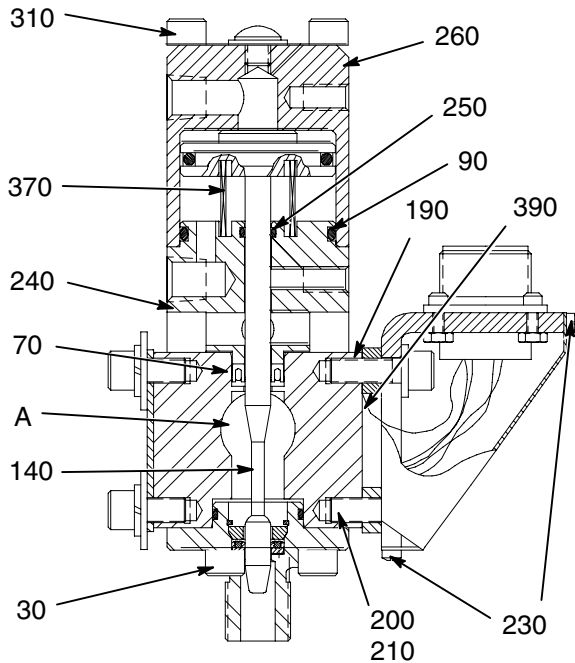
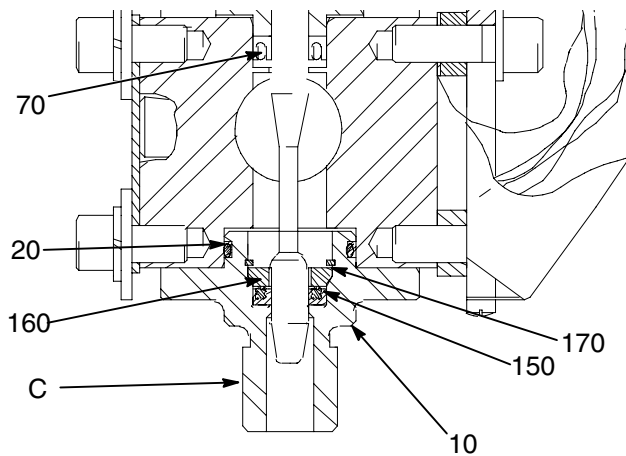

Fig. 9 Snuff-Back Valve Shown
Fig. 10 Snuff-Back Valve Shown
- a. Remove the two screws (230) from the connector cover. Then remove the connector cover.
- b. Remove the two socket head screws [Fig. 9, Item (200)], two washers (210). The heater cartridge (270) and sensor (320) will come out of the dispense valve body (Fig. 15).
4. Remove the four socket head screws (310) and pull cylinder cap (260) and cylinder base (240) from the dispense valve body (190). The needle and piston remain with the cap and base.
6. Remove needle from either the cap or the base (depending on which piece it went with.) When the needle is separated from the base, the closure spring (370) falls out.
7. Using an o-ring pick, remove dispense valve body seal (70).
8. Disassemble adapter assembly (Fig. 10):
- a. Unscrew nozzle adapter (C).
- b. Remove three socket head screws (30 in Fig. 9).
- c. Remove seat adapter (10). Contains seat on base seal valves.
- d. Remove retaining ring (170) from adapter seat (Fig. 10). Not on base seal guns.
- e. Remove seal (150) and spacer (160) from adapter seat (Fig. 10). Not on base seal guns.
- f. Remove o-ring (20) from adapter seat.
2. Reassemble adapter assembly (Fig. 10):
- a. Lubricate and replace o-ring (20).
- b. Lubricate and replace seal (150) and spacer (160). Make sure the seal energizer faces toward the material pressure.
- c. Replace retaining ring (170).
- d. Replace seat retainer (10).
- e. Insert and tighten three socket head screws (30 in Fig. 9).
- f. Screw on nozzle adapter (C).
3. Lubricate then replace dispense valve body seal (70). Make sure the seal energizer faces toward the material pressure.
- a. Remove the two screws from the connector cover [Fig. 9, Item (230)] and remove the receptacle cover.